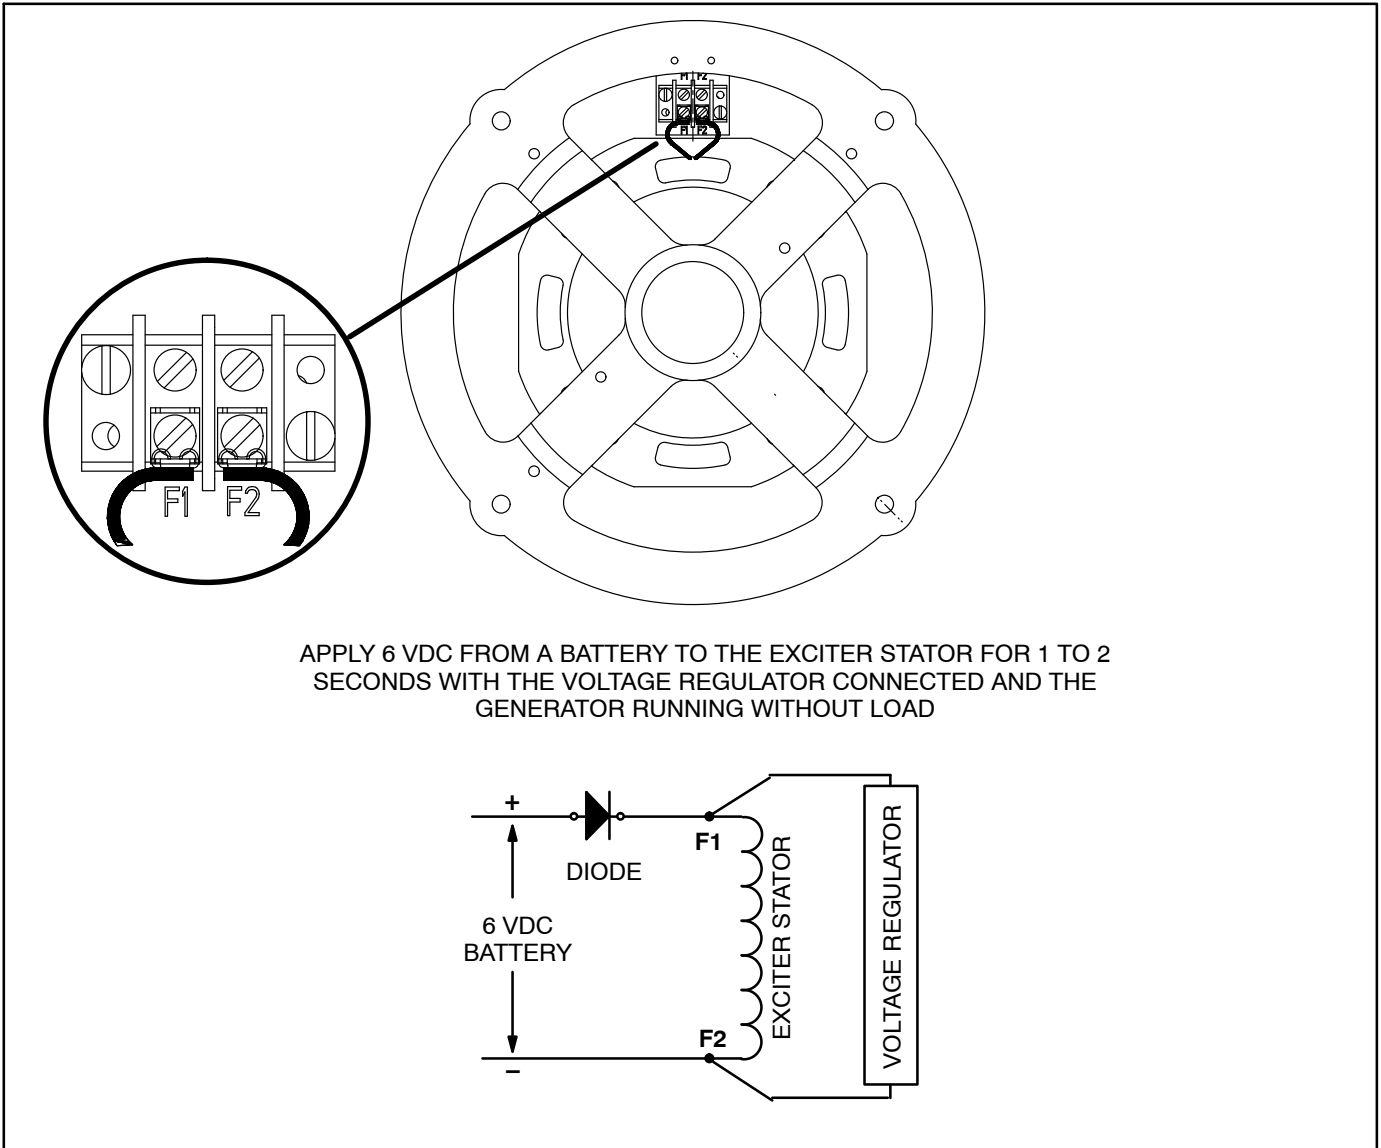

FIGURE 9. FLASHING THE FIELD
**Winding Insulation Resistance:** Disconnect exciter stator leads **F1** and **F2** from the terminal block on the generator end bell (Figure 9). Conduct the test as instructed for Winding Insulation Resistance.